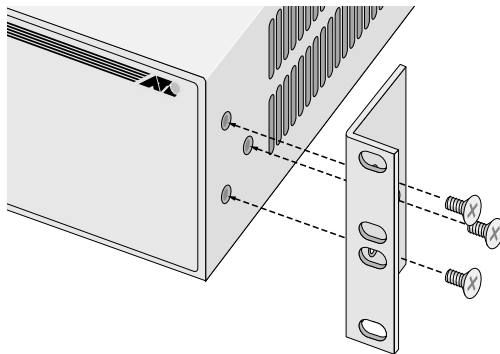

Figure 4 Attaching Rackmounting Brackets
5. Attach the rackmounting brackets to each side of the switch, using the six flathead screws that came with the switch package as shown in Figure 4.